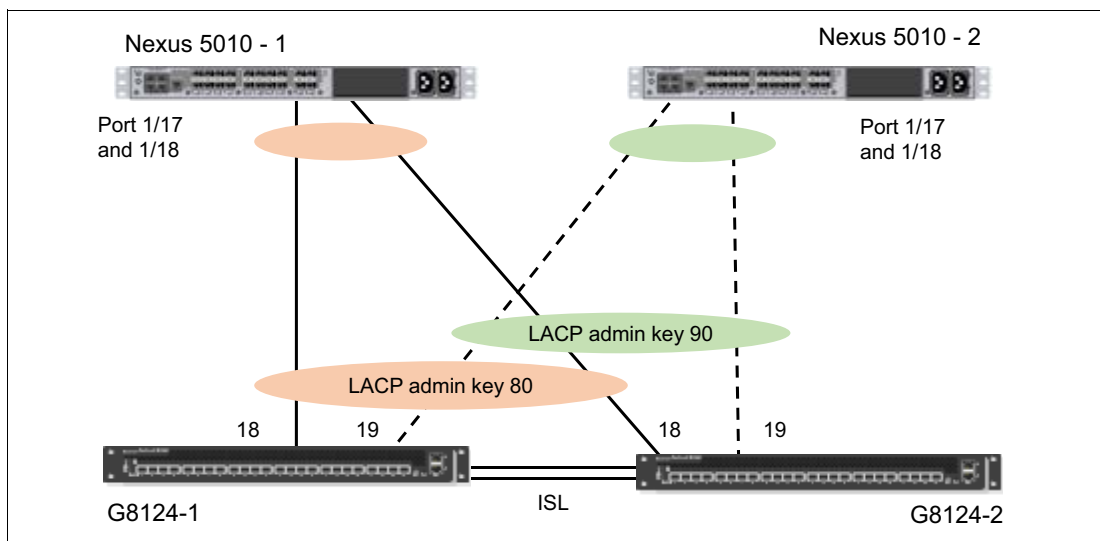

Figure 19 Connection of VLAG peers to non-virtualized uplink switches
On the Lenovo VLAG peers, the participating ports in the aggregation need to be added on both switches. For example, if our ports 18 on both switches are joined together in a 2-port, cross-VLAG aggregation using the LACP admin key 80, the following configuration is required on *both* switches as shown in Figure 19 on page 20.